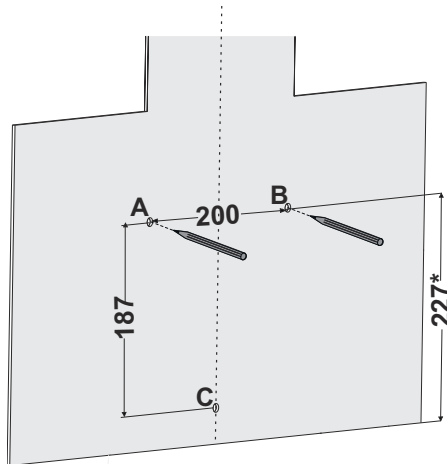

Fig. 12
1. Draw a center position line perpendicular to the wall from the ceiling to the lower edge of the hood (Fig. 12).
2. The hanging holes for the hood must be marked (Fig. 12).